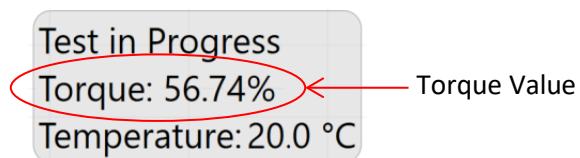

Figure 64: Torque Display Popup
14. Watch the torque values for the first minute to ensure the number does not vary by more than 10%. Torque value is displayed on-screen in a popup window. This convenient popup is moveable and can be dragged to another location on-screen for easier use and viewing. Refer to Figure 64.